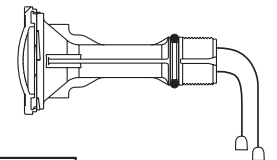

Figure 19.
- Connect the wire connectors from the bulb assembly to the wire connectors attached to the snap-on cord cap. Make sure to use the correct bulb assembly unit, AquaLuminator **OR** AQL 500, see Figure 19. The bulb assemblies are **NOT** interchangeable. *The wrong bulb assembly will permanently damage light.*
1. When replacing the bulb assembly, make sure to use the correct bulb assembly unit, AquaLuminator **OR** AQL 500, see Figure 19. The bulb assemblies are **NOT** interchangeable. *Wrong bulb assembly will permanently damage light.*